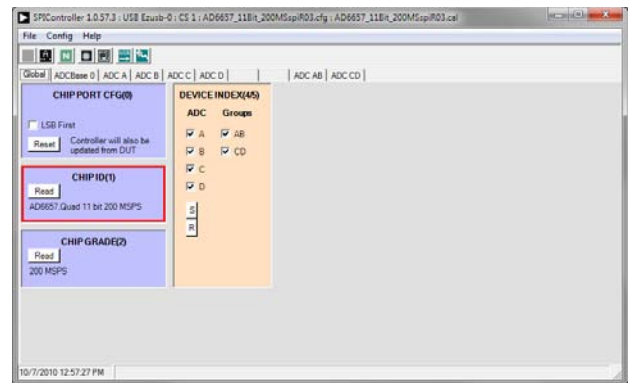

Figure 8. SPIController, CHIP ID(1) Box
1. Open the SPI controller software by going to the **Start** menu or by double-clicking the **SPIController** software desktop icon. If prompted for a configuration file, select the appropriate one. If not, check the title bar of the window to determine which configuration is loaded. If necessary, choose **Cfg Open** from the **File** menu and select the appropriate file based on your part type. Note that the **CHIP ID(1)** field should be filled to indicate whether the correct SPI controller configuration file is loaded (see Figure 8).